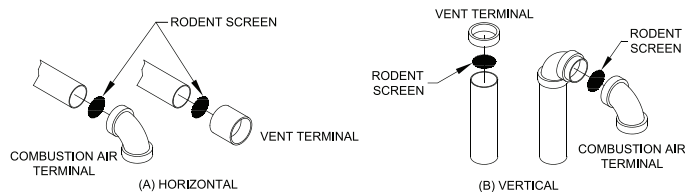

Figure 13: Rodent Screen Installation, Horizontal, Vertical, Straight Vent Terminations
- Install rodent screen and vent terminal (supplied with boiler). See Figure 13 for appropriate configuration details.
- Install rodent screen and combustion air terminal (supplied with boiler). See Figure 13 for appropriate configuration details.
- Install rodent screen and vent terminal (supplied with boiler, see Figure 13 for appropriate configuration).
- Install rodent screen and combustion air terminal (supplied with boiler). See Figure 13 for appropriate configuration.
- Install rodent screen and vent terminal (supplied with boiler). See Figure 13 for appropriate configuration.